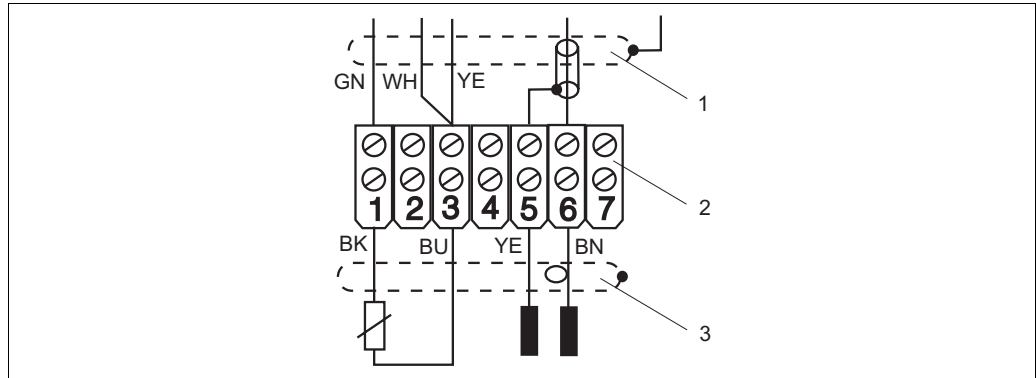

Fig. 18: Terminals for CLS21
1. Unscrew the cover (pos. 1) from the assembly head (pos. 3).
3. Connect the measuring cable according to → Fig. 18 to the terminals (pos. 2) inside the assembly head.
4. Push the plug (pos. 4) of the measuring cable onto the sensor head (pos. 5).
5. Screw the sensor holder (pos. 6) into the bayonet lock of the assembly pipe.
8. Connect the measuring cable CYK71 according to → Fig. 18 to the terminals (pos. 2).